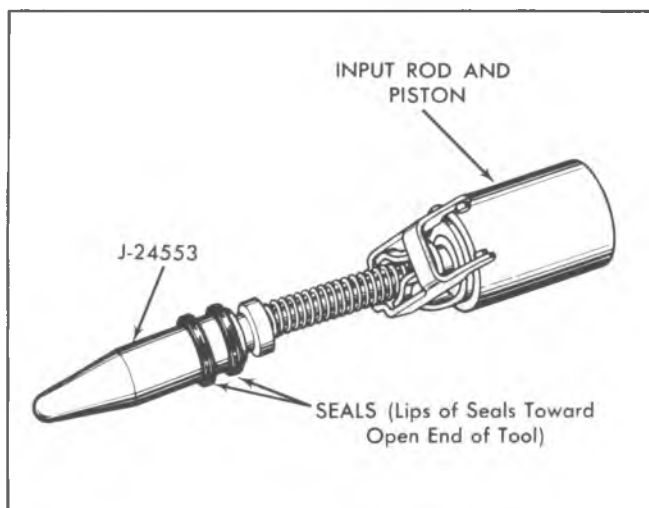

Fig. 6--Installing Input Rod Seals
4. Lubricate the input rod end, **NEW** input rod seals and Seal Installer Tool J-24553 with clean power steering fluid. Slide the seals on the tool with the lip of the cups toward the open end of the tool (fig. 6).